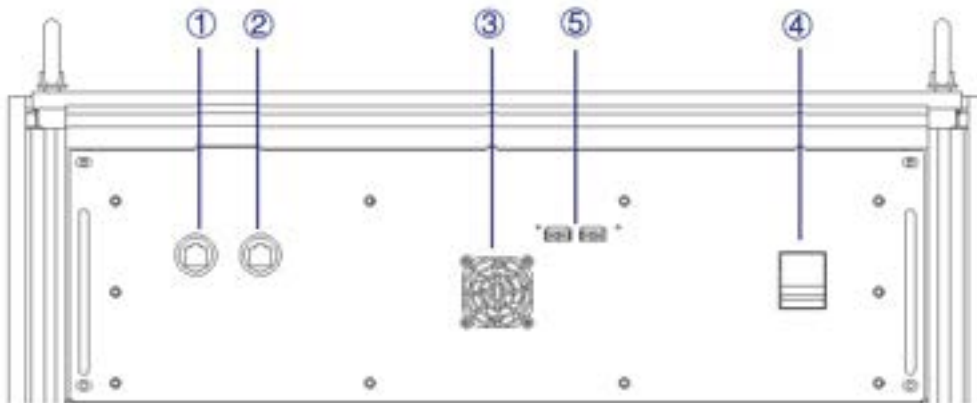

Figure 3-7
Step 3: Open the cabinet door and power off the control unit switch (Figure 3-7④).